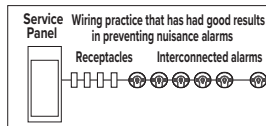

Figure 8-B
- Figure 8-A illustrates interconnection wiring. Improper connection will result in damage to the alarm, failure to operate, or a shock hazard.
that does not have a dimmer associated with it. If receptacles must be placed on the same line it is suggested that they be placed ahead of the smoke alarms (see Figure 8-B). This will prevent large voltage drops from occurring between the first and last alarm in the circuit.